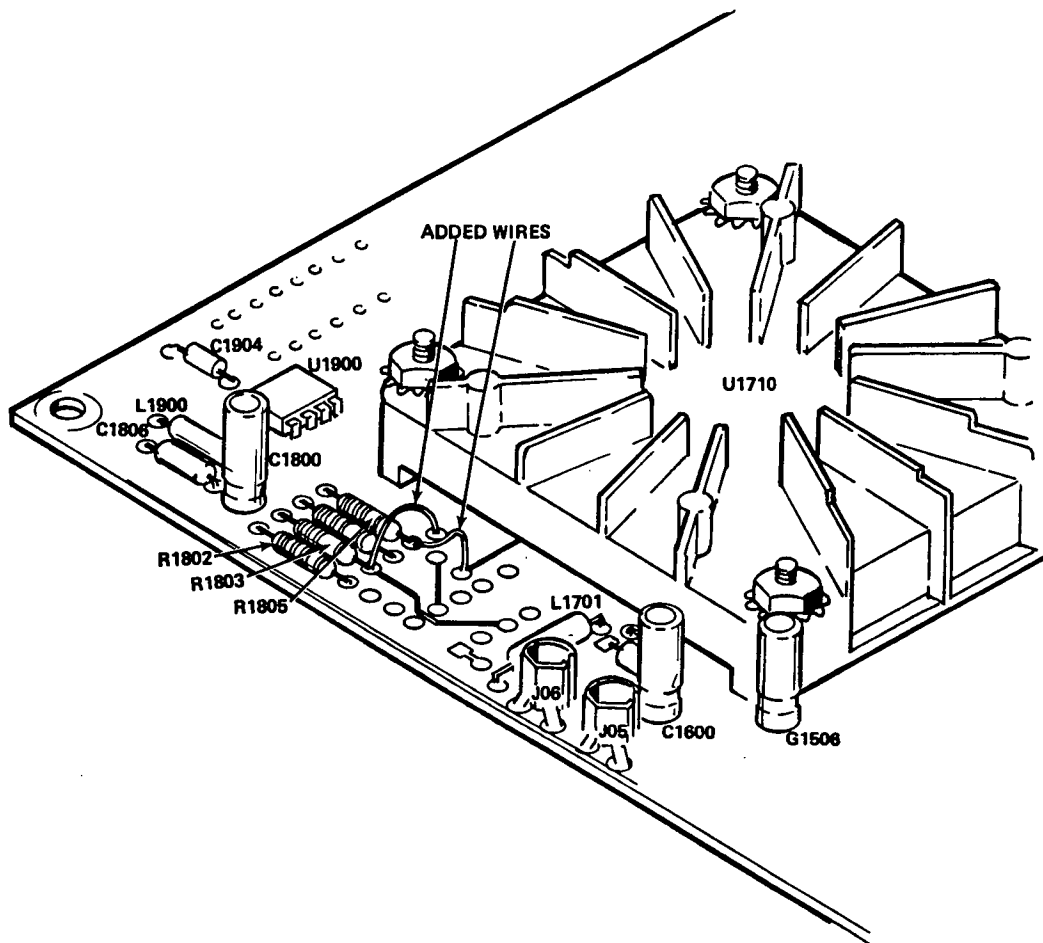

Figure 8. - Partial. Acquisition circuit board.
- () 17. Add a length of 30 blue AWG wire to the circuit board pad from which R1705 was removed, nearest U1710. Solder the remaining end of the wire to the circuit board pad common to R1805, 1.69k Ω , resistor, nearest L1701, refer to Figure 8.
- () 18. Add a length of 30 blue AWG wire to the circuit board pad from which R1801 was removed, nearest to the outer edge of the circuit board. Solder the remaining end of the wire to the circuit board pad common to R1803, 1.69k Ω , resistor, nearest to L1701, refer to Figure 8.